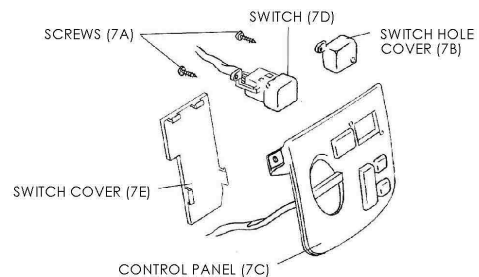

FIG. 7
12. REMOVE THE SWITCH COVER (7E) ON THE BACK OF CONTROL PANEL (7C). REFER TO FIGURE 7.